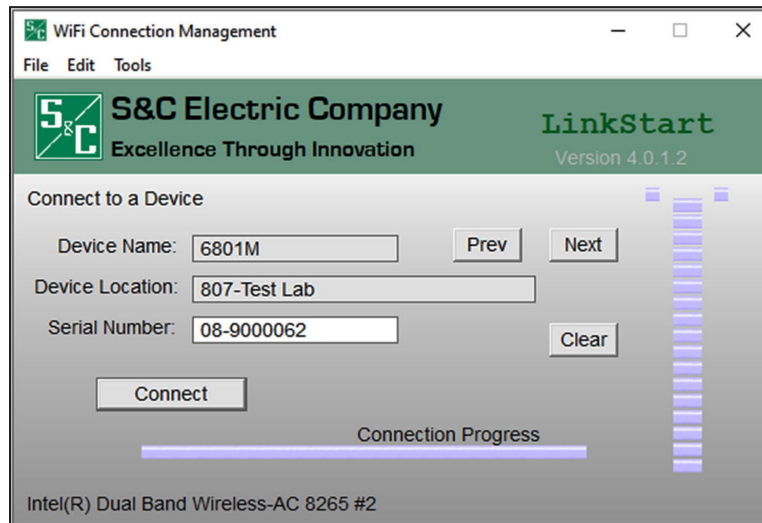

Figure 7. The Wi-Fi Connection Management dialog box.
- (b) Click on the **Connect** button. See Figure 7.